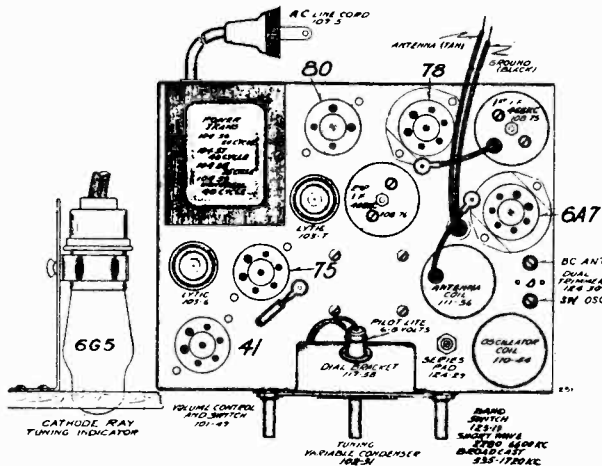

FIG. 1—TOP VIEW
- Re-set external oscillator to 1550 K.C., rotate variable gang condenser and pick up signal. Adjust broadcast antenna trimmer (Adjustment number 4) to resonance; also adjust preselector trimmer which is mounted on the top of the rear section of the three gang variable tuning condenser to resonance. (See top view of chassis; Fig. 1, for location of this adjustment).
(a) Set external oscillator to 6.6 megacycles and adjust short wave oscillator trimmer to resonance. This adjustment is marked "S.W. Osc." (see top view of chassis, Fig. 1, for location of this adjustment).
(a) Set external oscillator to 1550 K.C., rotate variable gang condenser and pick up signal. Adjust broadcast antenna trimmer to resonance. This adjustment is marked "B.C. Ant." (See top view of chassis, Fig. 1, for location of this adjustment.)
(b) Re-set external oscillator to 600 K.C. and adjust broadcast series pad to resonance by rotating condenser to approximately 600 K.C., rocking it slowly to and fro until, by adjusting series pad, maximum output is attained. This adjustment is located on the top of the chassis directly in front of the antenna coil. (See top view of chassis, Fig. 1).